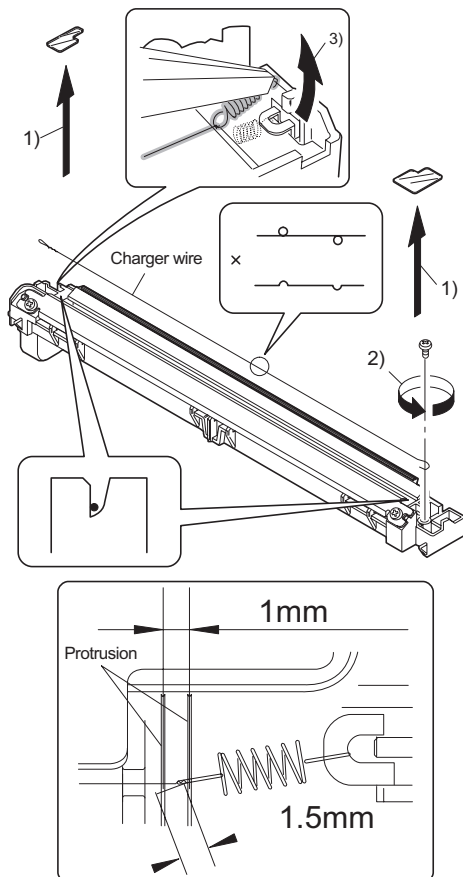

Fig.1
- The rest of the charger wire must be within 1.5mm. Refer to Fig.1